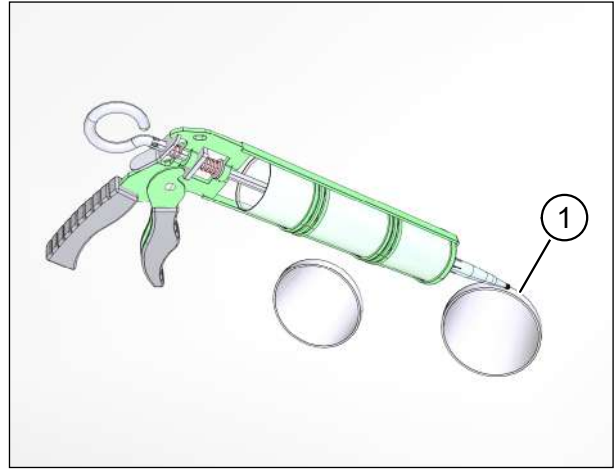

Fig. 30: Sealing ventilation pipes on external wall
- ▶ Chamfer both pipe breakthrough edges (item 1 in Fig. 30) to roughly 5 x 45° to create enough space for the sealing joints with permanently elastic sealant.